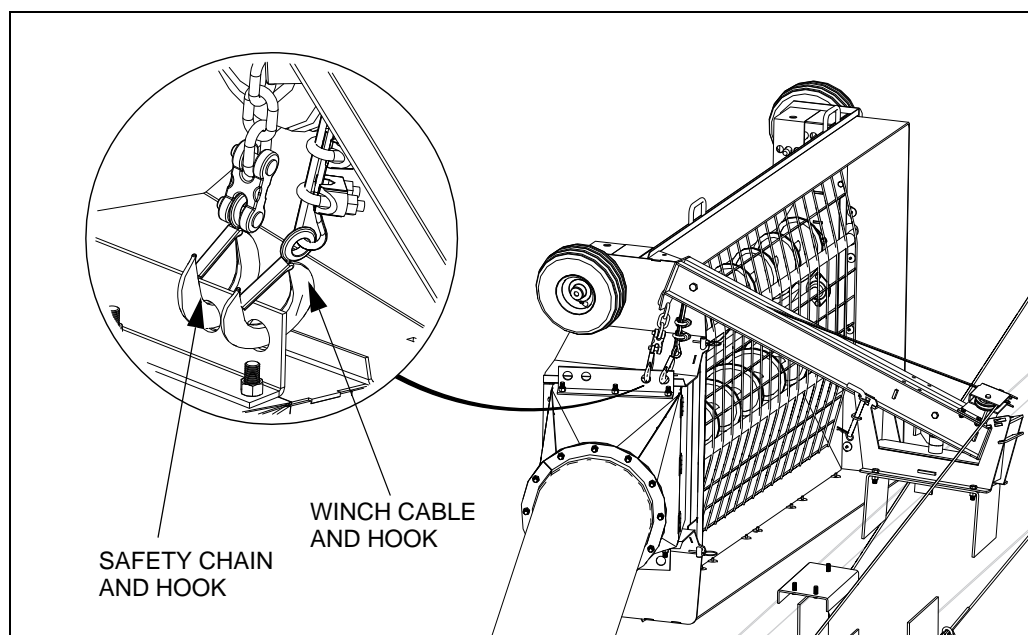

Figure 4.3 Hopper in Transport Position
4. Place the intake hopper into transport position (see Figure 4.3):
Important: *Intake feed side of hopper must face main auger when in transport (Figure 4.3)*